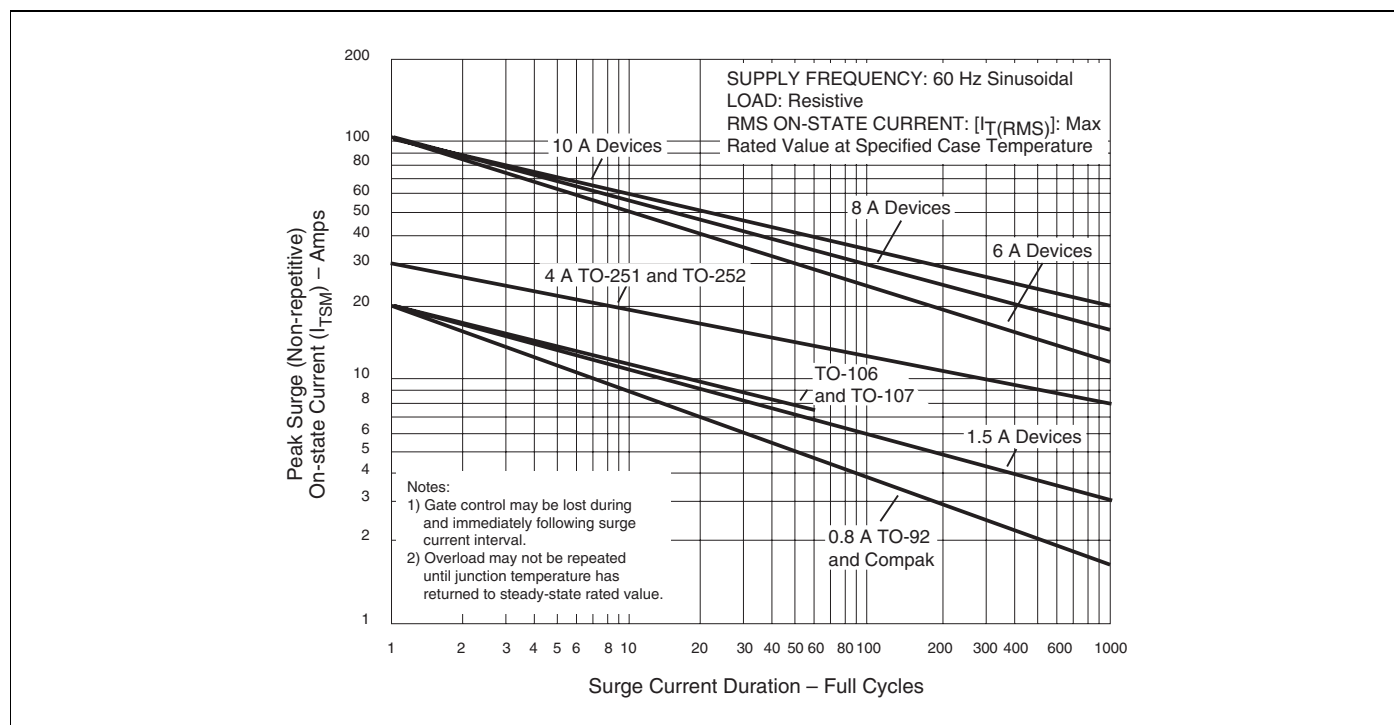

Figure E5.14 Peak Surge On-state Current versus Surge Current Duration
- For more than one full cycle, see Figure E5.14.